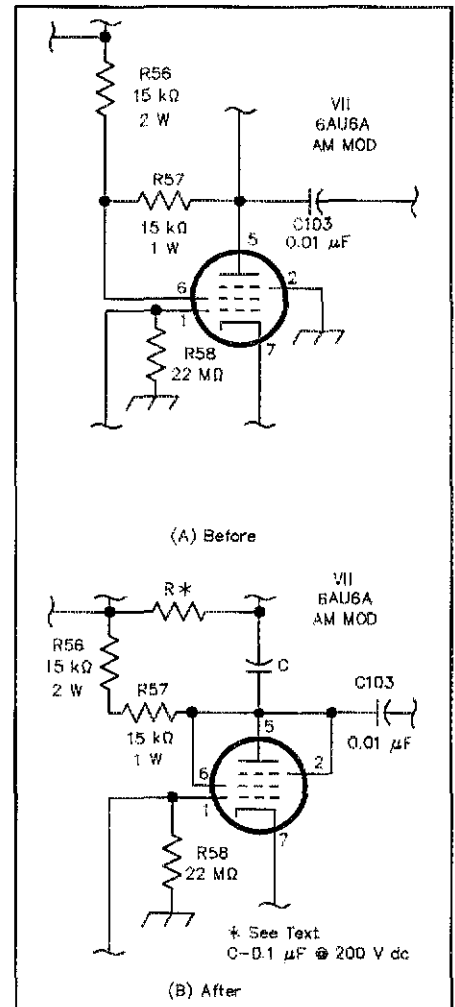

Figure 2—How Steve Thomason modified his Drake T-4XB's amplitude modulator (A) for better AM operation (B).
1. I converted V11, the T-4XB's 6AU6A pentode amplitude modulator, to a triode by connecting together pins 6, 2 and 5 (the screen, suppressor and plate, respectively). *Be absolutely sure that you remove the screen connection (pin 5) from B+, and that you remove the suppressor connection (pin 2) from ground!* Once you've disconnected these pins from B+ and ground, respectively, simply run a jumper from pins 2 and 6 to the plate (pin 5). Figure 2 shows the 6AU6A stage before and after modification.
2. Couple the audio from the plate of the converter 6AU6A to the screen of the T-4XB's 12BY7A driver tube through 0.1- μ F capacitor. (Refer to Figure 2 for wiring details.) I used a Radio Shack metallized film capacitor rated at 200 V dc (catalog no. 272-1053). You now have a triode audio amplifier screen-modulating a
3. I obtained the carrier level I desired by experimenting with the value of R in Figure 2, which determines the voltage applied to the driver screen. In my case, a 470-k Ω , 2-W carbon resistor did the trick. (I recommend using a 2-W resistor because the resistor dissipates some power in dropping the 250-V B+ to the value needed.)
◊ As I read Robert Capon's "You Can Build: A Compact Loop Antenna for 30 through 12 Meters" (page 33 of May 1994 *QST*), I realized that you only need one switch to control the capacitor motor, as shown in Figure 2.—*John H. King, NH6ZF, Chula Vista, California*